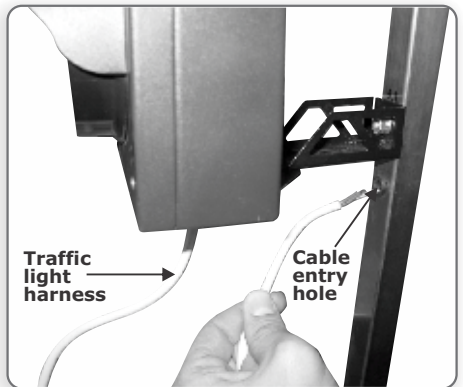

FIGURE 6
5. Decide on which side of the SECTOR the traffic light is to be mounted, and remove the two panel plugs as shown in Figure 6